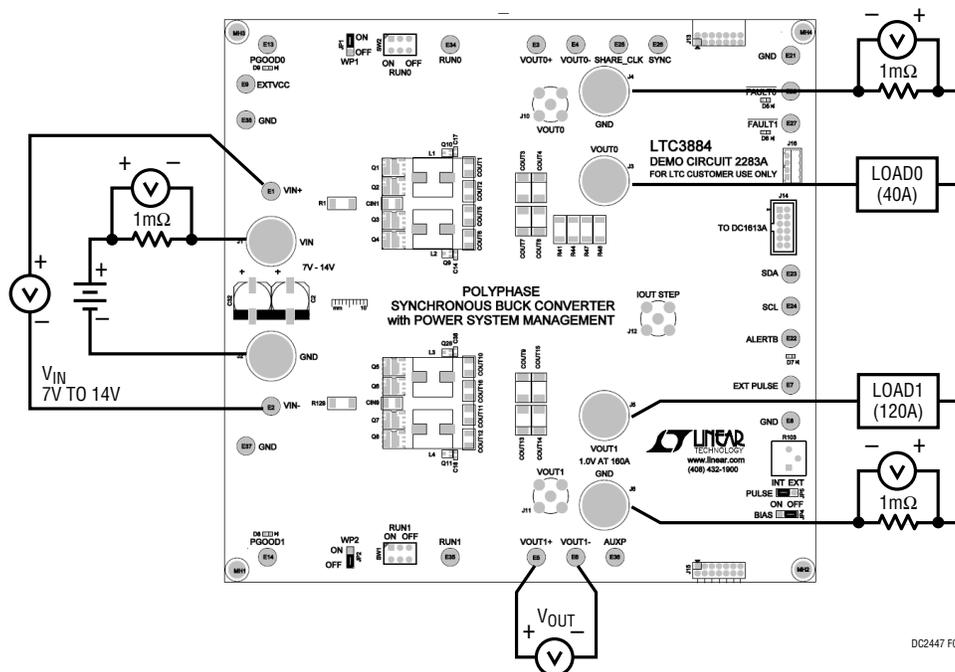

Figure 1. Proper Measurement Equipment Setup
Demonstration circuit 2283A is easy to set up to evaluate the performance of the LTC3884. Refer to Figure 1 for the proper measurement equipment setup and follow the procedure below.
2. Connect the output loads between VOUT0/ VOUT1 and GND (Initial load: no load). Refer to Figure 1.
1. As stated in the Description section, demonstration circuit 2283A provides an option to be configured as a dual-output converter. When the board is set up as a single-output converter (the default setup), four 0Ω shunt resistors are populated to short VOUT0 and VOUT1. Please follow Figure 1 to set up the connection of two loads to the output terminals to avoid board damage.